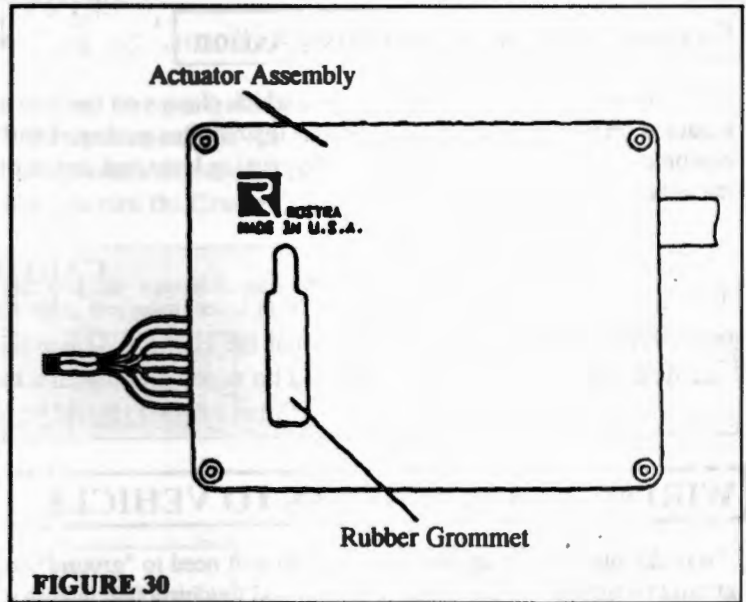

FIGURE 30
1. Push Rubber Cover Grommet securely into place on the cover of the Actuator Assembly. (Figure 30)